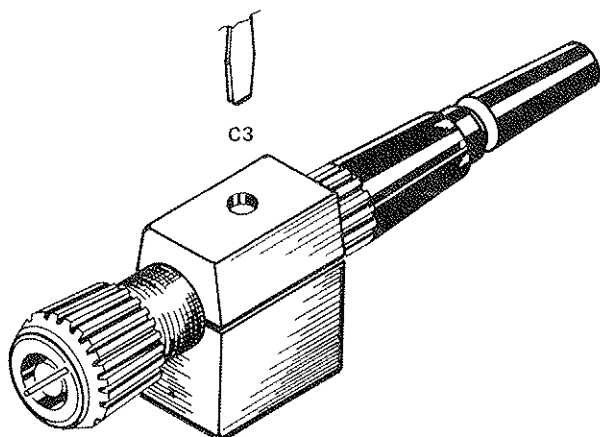

Fig. 4. Low-frequency adjustment.
3. Adjust low-frequency compensation (C3, see Fig. 4) for optimum flat top on square wave.